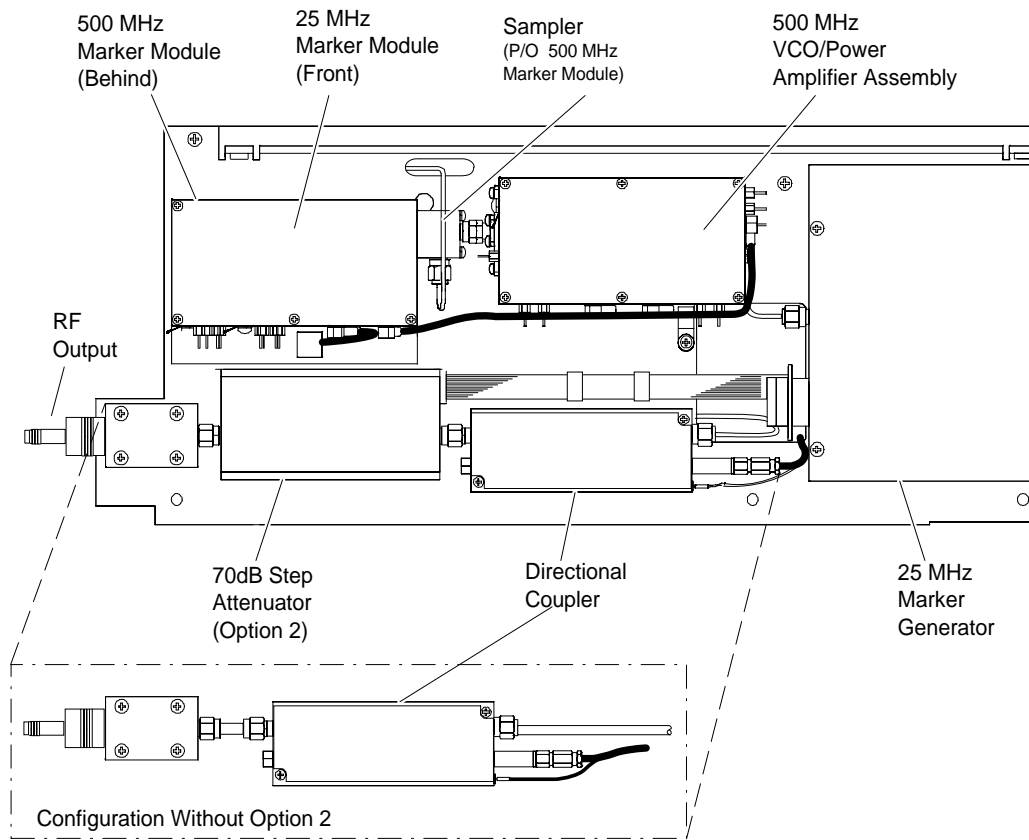

Figure 7-18. Models 54154A through 54169A RF Deck Parts Location (External Side Detail)
This paragraph provides instructions for removing and replacing the microwave components on the 54154A through 54169A RF decks. Procedures are organized by component. Refer to Figures 7-18 and 7-19 for component locations. In all cases, the replacement procedure is the reverse of the removal procedure.
Step 3. Remove two screws from attenuator package ("X" in Figure 7-18), disconnect the remaining RF connector, and lift the attenuator straight away.